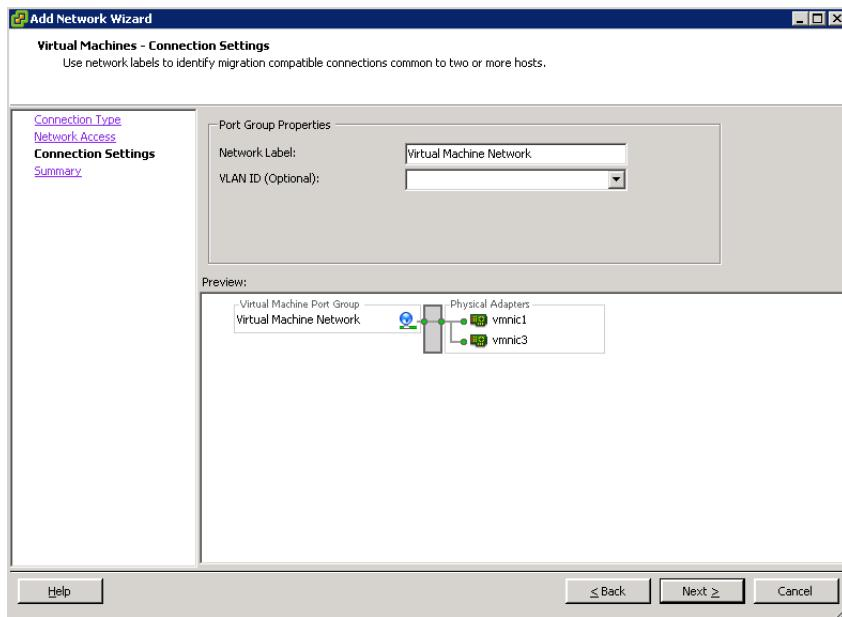

Figure 5-18. Modifying the Network Label and the VLAN ID
8. Modify the network label and VLAN ID if needed, and then click **Next** (Figure 5-18).